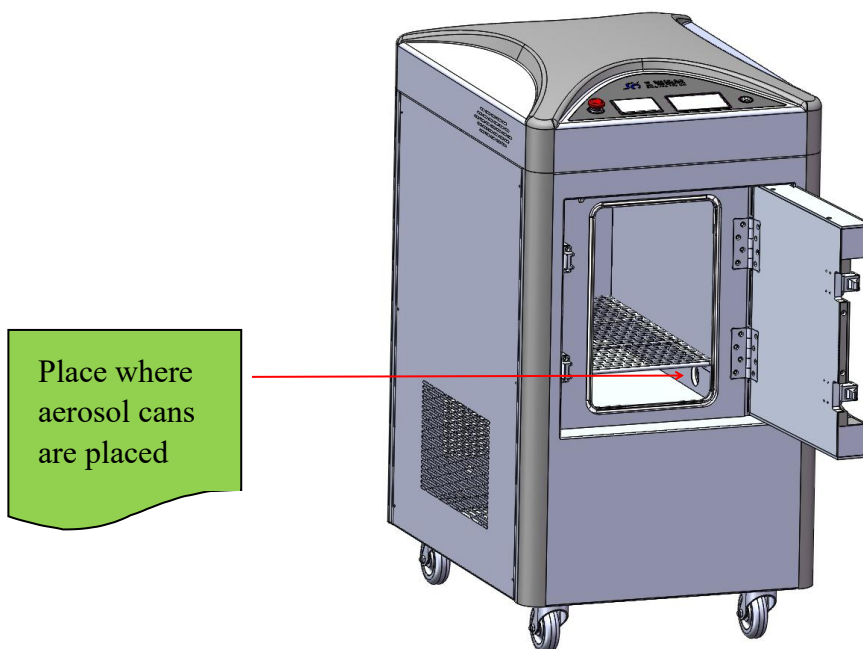

Figure 18
7.4、 Put the ethylene oxide aerosol canister into the storage position of the dosing can in the sterilization room, and place the dosing can according to the instructions of the aerosol can. The location of the dosing tank is shown in Figure 18